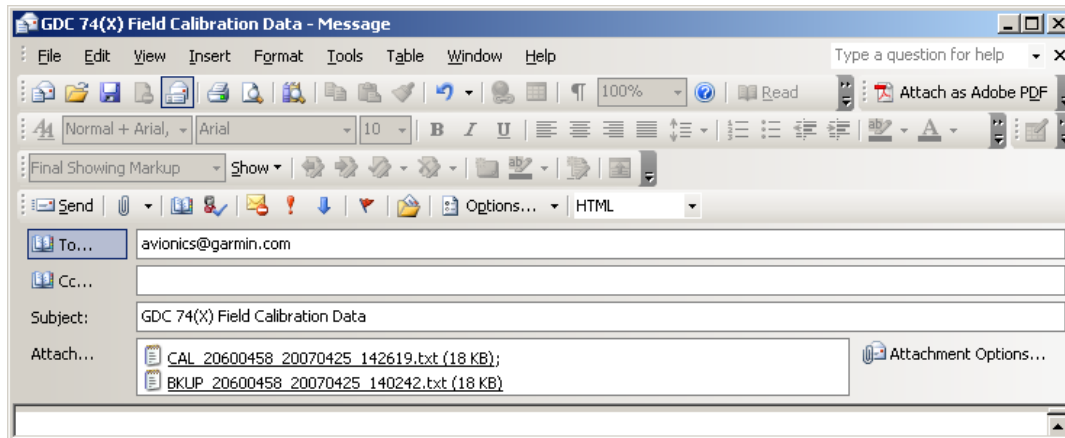

Figure 5-13. Example Post-Calibration E-mail
Save copies of the calibration (BKUP and CAL) files for permanent storage, these files will be located in the C:\Garmin directory, or in the same directory where the GDC_FieldCal.exe file resides. Also, email copies of these files to avionics@garmin.com. Please enter "GDC 74(X) Field Calibration Data" in the subject line, as shown in Figure 5-13.